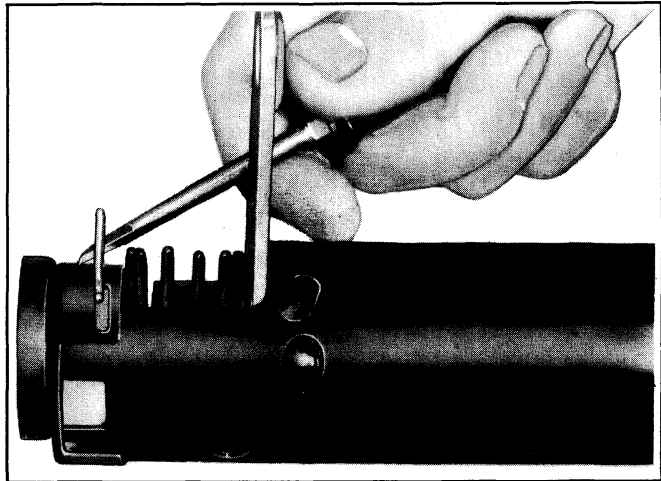

Fig. 3B-85--Removing Lower Bearing Retainer
5. Insert the rack preload spring into the housing from the bottom side. The long section should be toward the handwheel and hook onto the edge of the housing (fig. 3B-86).